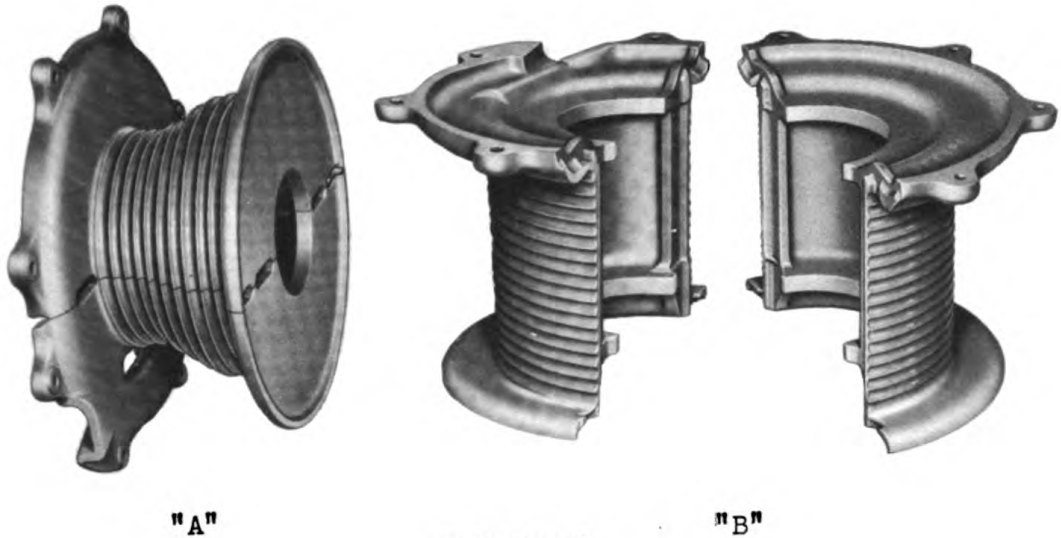
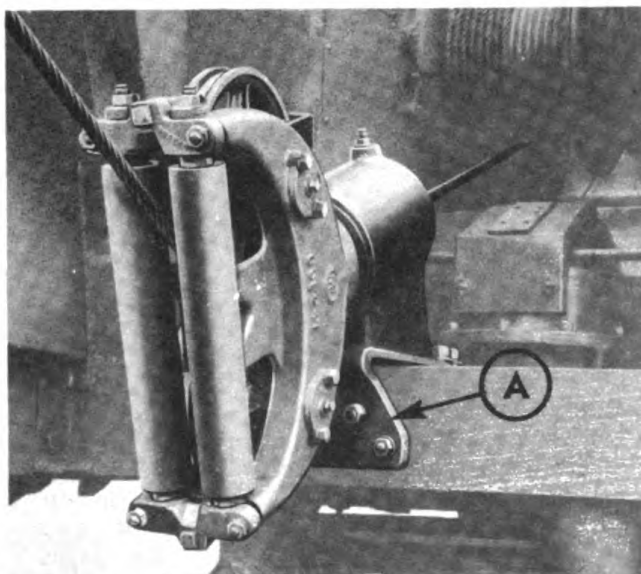

FIGURE 71
FIGURE 78
Drum and sprocket laggings are split to facilitate installation on the main shaft as shown in Figure 71 above. The two halves of each lagging should be used together as each pair is drilled to fit the drum before splitting. Each half is quickly and easily installed by placing it over the shaft and bolting to the drum. Figure 72 shows the drum shaft equipped to operate as a shovel. The tapered lagging for the dipper hoist cable is at the left, and the double sprocket lagging for crowding and racking-in the dipper is at the right. Figure 73 shows the drum shaft equipped to operate as a lifting crane, clamshell or pile driver. Both laggings are of the same diameter with the narrow one at the left and the wide one at the right. Figure 74 shows the drum shaft equipped to operate as a dragline or pull shovel. The larger diameter lagging for the hoist cable is at the left, and the smaller diameter lagging for the drag cable is at the right.
If a crane or a dragline is to be converted to a shovel, remove boom as directed under "Removing Crane Boom." In addition to the boom on a dragline, the fairlead must be removed by taking out bolts (A) shown in Figure 78, Page 99. Replace bolts in fairlead and store. Remove the right and left hand drum laggings from the main drum shaft and store. Bolt the tapered lagging (A), Figure 71, Page 95 at the left hand of the drum shaft. Bolt the double sprocket lagging at the right hand of the drum shaft. The shovel drum shaft assembly complete with tapered and sprocket lagging is shown in Figure 72, Page 95. Put the crowd chain around the left hand sprocket of the double sprocket lagging; fasten the ends of the crowd chain together with chain pin; insert cotter in chain pin and open. Do not try to adjust crowd chain until the boom is raised to an angle of approximately 40 degrees. To attach the reversing or racking-in chain which operates from the right hand sprocket of the double sprocket lagging on the main drum shaft to the single sprocket on the boom hoist shaft, remove the patch plate attached by four bolts to the curved section of the cab bulkhead. Put the chain around the sprocket on the boom hoist shaft; pass it through the hole in the cab bulkhead to and around the right hand sprocket of the double sprocket lagging on the main drum shaft; fasten the ends with a chain pin; insert cotter and open. Reeve the
Pull shovel attachment should be placed on cribbing as illustrated on Page 97. If crane or shovel is to be converted to pull shovel, remove crane or shovel attachments and lagging as described on pages (98) and (104). If dragline is to be converted to a pull shovel, remove only the dragline fairlead by taking out six bolts (A) as shown in Figure 78, Page 99. Pull shovel operation requires the same drum lagging as a dragline - large diameter lagging on the left hand drum and small diameter lagging on the right hand drum. If a shovel is to be converted to a pull shovel, standard dragline laggings must replace the shovel laggings removed. If a lifting crane is to be converted to a pull shovel, keep the large diameter lagging on the left hand drum but replace the right hand lagging with the small dragline lagging.